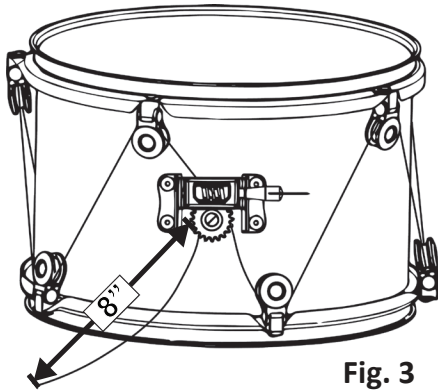

Fig. 3
6. Drape the cable over the winding post to ensure that you have approximately 8" of cable remaining to wrap around the winding post (**Fig. 3**). If the cable is not long enough, replace it with a new cable.